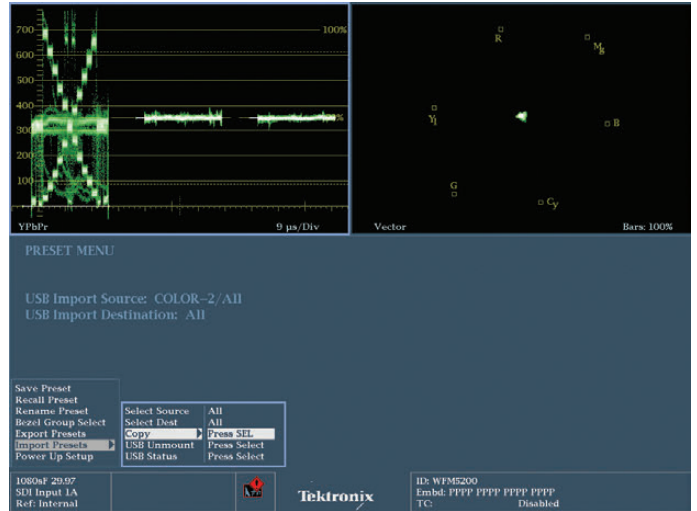

Figure 6-22. Completion of copying presets.
13. Select COPY and press the select button. You should receive a message that it was successful (Figure 6-22).